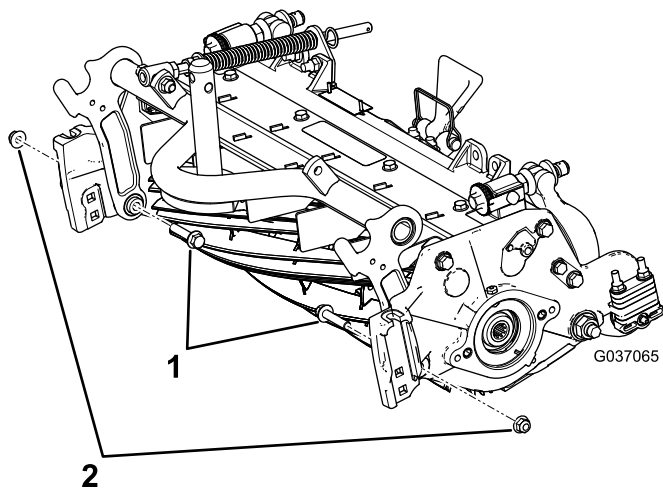

Figure 5
- B. Install the 2 existing flange-head bolts from the inside of the cutting unit, and secure them with the 3/8 inch flange locknuts (Figure 5).